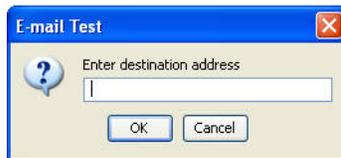

FIG. 156
2. The E-mail Test screen shown in FIG. 156 displays. Type an e-mail address to send the test message to and click the OK button to send the test e-mail.